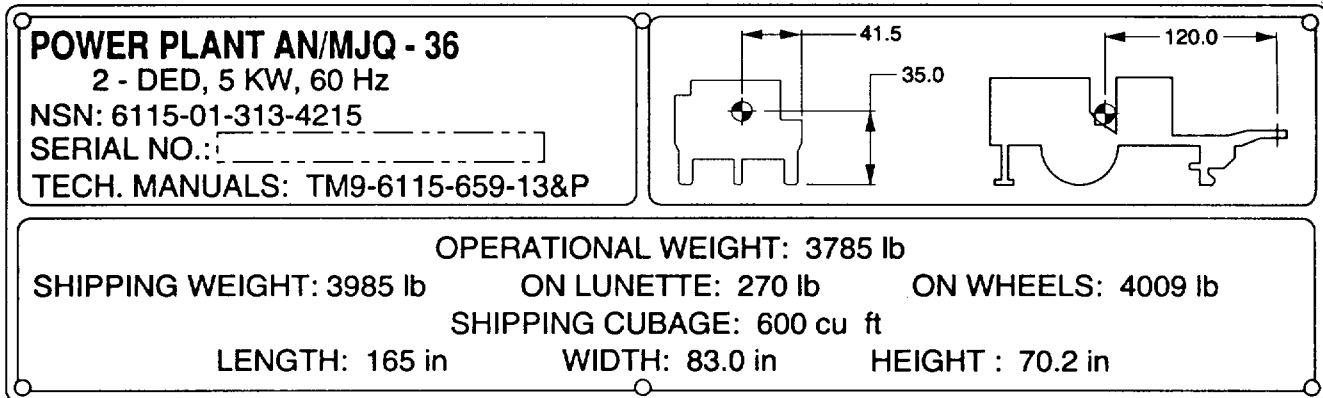

Figure 2-12. AN/MJQ-36 Identification/Transportation Data Plate.
**2-6.2 AN/MJQ-36 Identification/Transportation Data Plate.** Refer to figure 2-12. This plate is located on front of roadside fender.